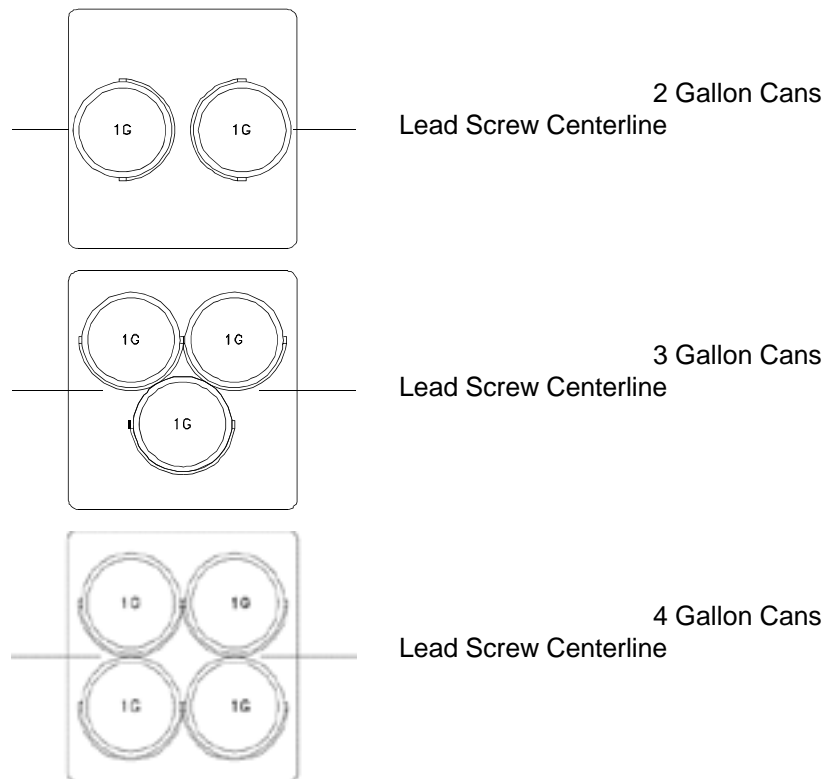

Figure 3. Gallon Can Placement
- Do not mix more than one full case (four 1-gallon cans) of paint at one time. The maximum weight limit is 80 pounds for paint and 60 pounds for stucco mixture. See BASIC OPERATION, Figure 3, "Gallon Can Placement" on page 16.